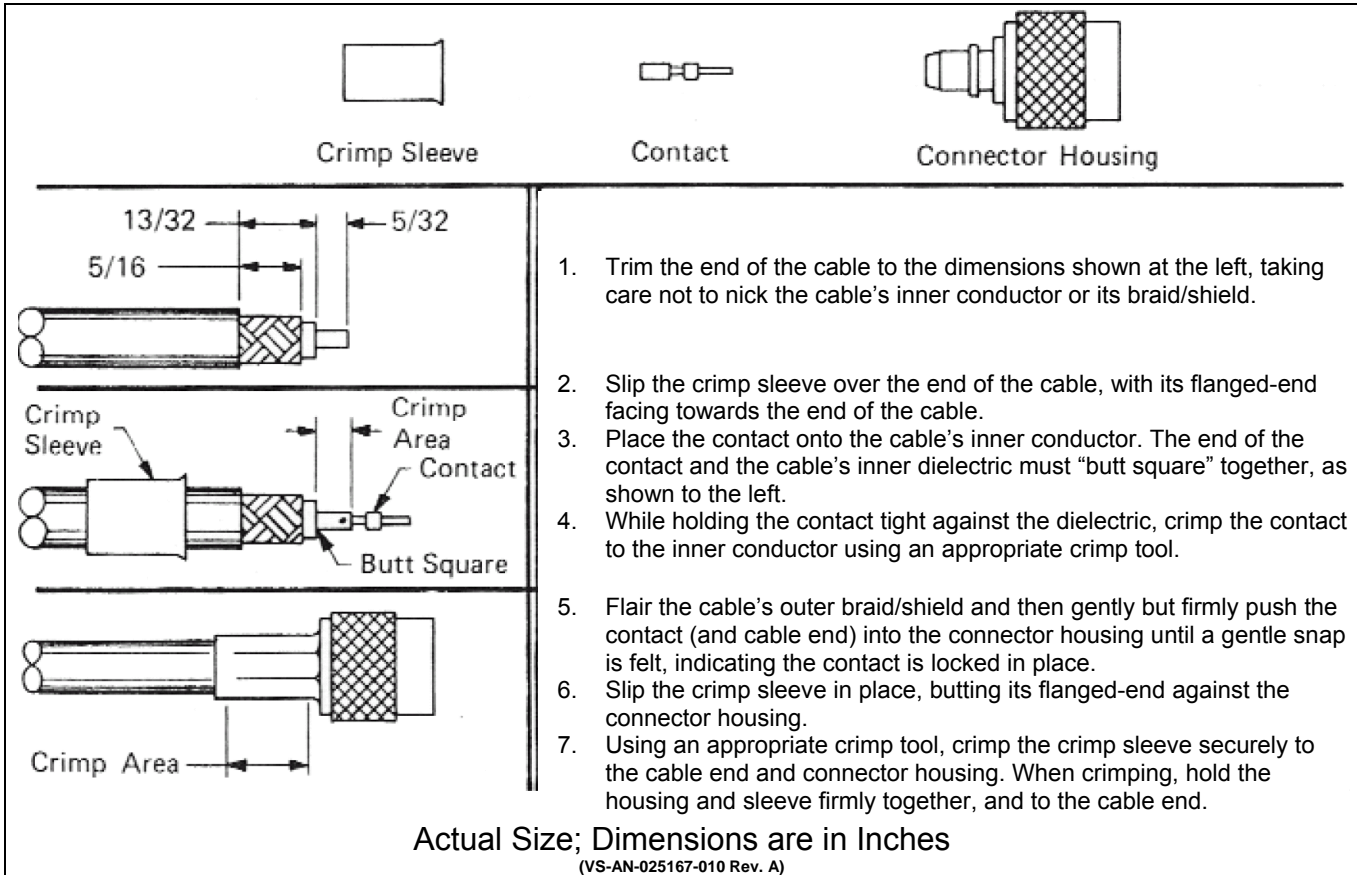

Figure 6-4: Crimping Instructions for TNC RF Connector
- Using an appropriate crimp tool, crimp the supplied TNC RF connector to the end of the antenna cable. For crimping instructions, see Figure 6-4 or the instructions supplied with antenna mount.